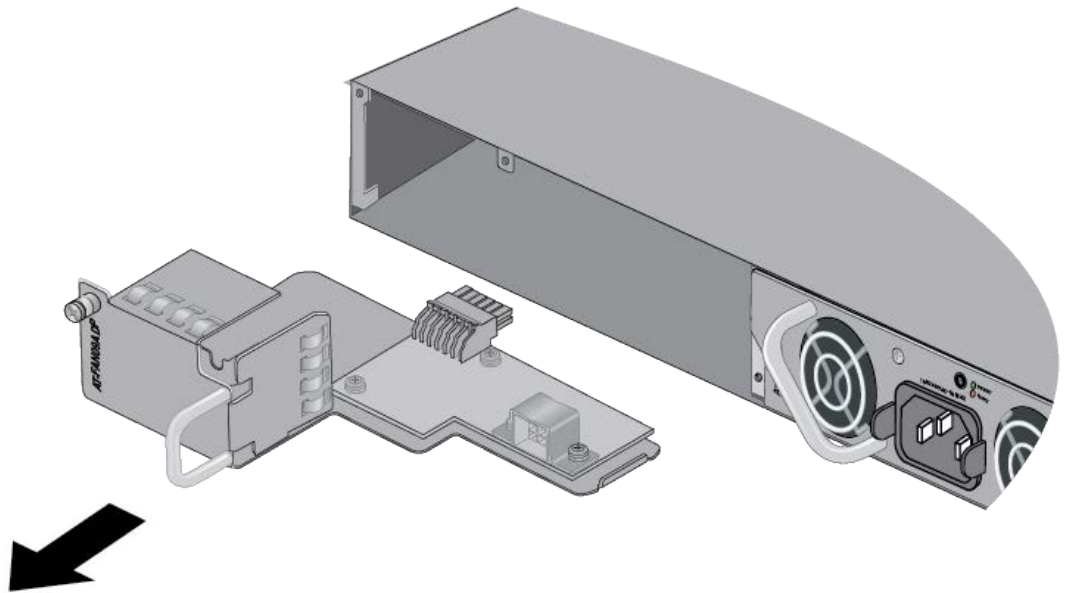

Figure 31. Removing the AT-FAN09ADP Module
6. Carefully pull the AT-FAN09ADP Module from the switch. Refer to Figure 31.